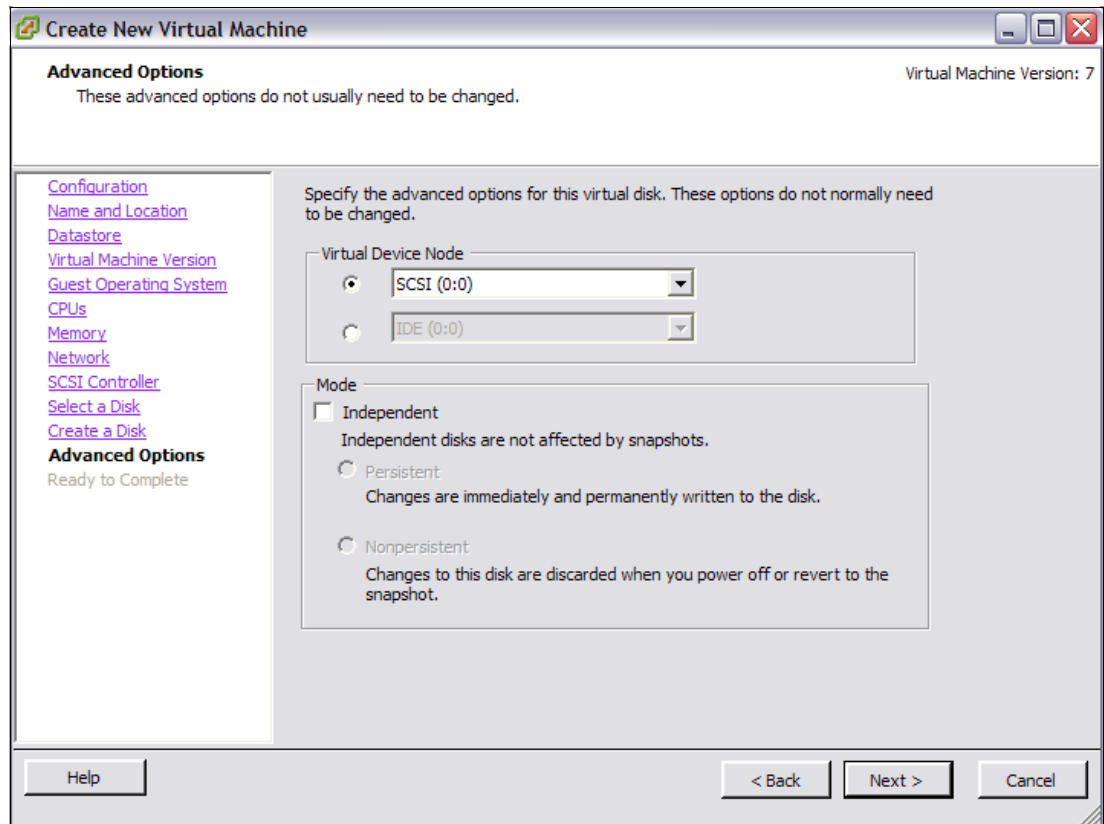

Figure 22-84 Advance Options
14. In the Specify Advanced Options window (Figure 22-84 on page 716), click **Next**.